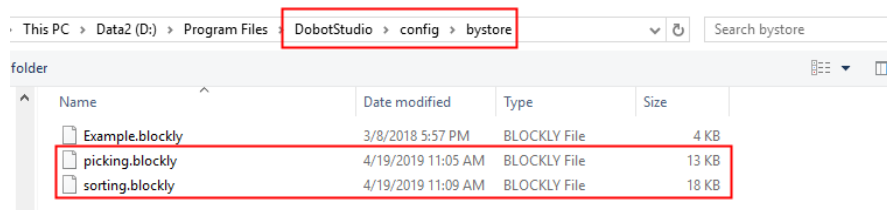

Figure 3.3 Save demos
Step 1. Put the two demos for picking and sorting into the path *Installation path/DobotStudio/config/bystore* or other folders. As shown in Figure 3.3.